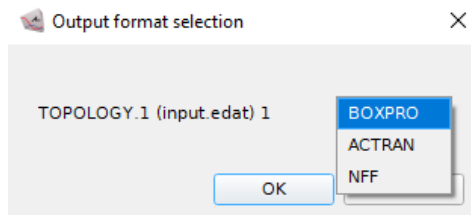

Figure 10.60: Topology output format selection - BOXPRO, ACTRAN, NFF
- If the topology is in BOXPRO format, it can be exported to EDAT BOXPRO type (choose BOXPRO option in the format selection popup, as shown in Figure 10.60), to NFF type (choose NFF option) or to explicit type (choose ACTRAN option).